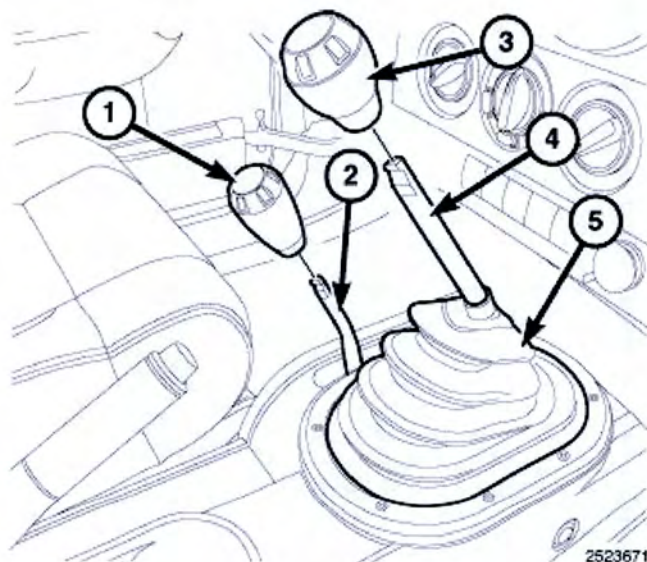

Fig. 1 Shift Lever
2. Slide the shift lever back towards the seat and pull the shift knob (Fig. 1) in an upward motion with a "quick" snap to remove the shift knob.